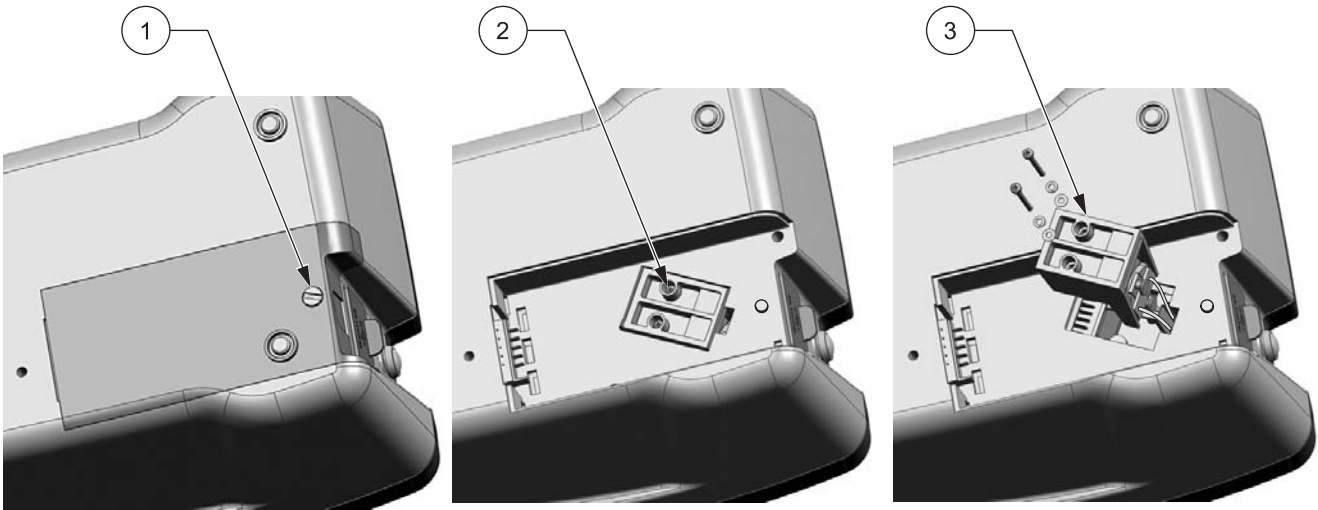

Figure 12 Removing the Lamp
8. Use a Phillips screwdriver to remove the screws from the lamp housing (Figure 12 on page 77).